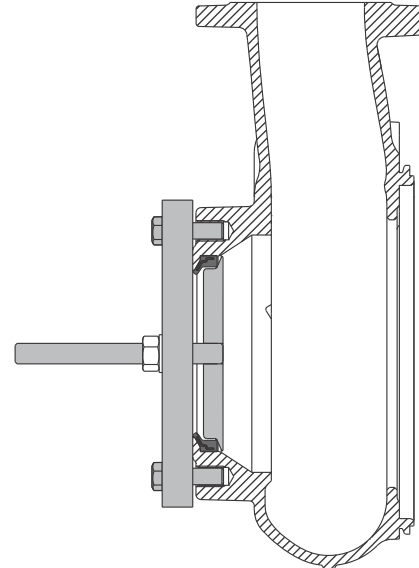

Fig. 22 Fitting the seal ring by means of a mounting tool
- Moisten the seal ring (46) with soapy water and fit it in the pump housing (50).
- Mount the tool on the pump housing. See fig. 22. See the tool dimensions in section 5.7 *Seal ring mounting tool*.